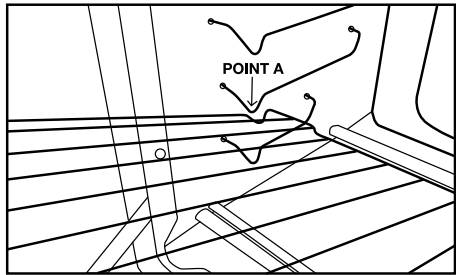

Fig. 2
2. Slide the wire rack slightly forward until the edge is past POINT A (Fig. 2).